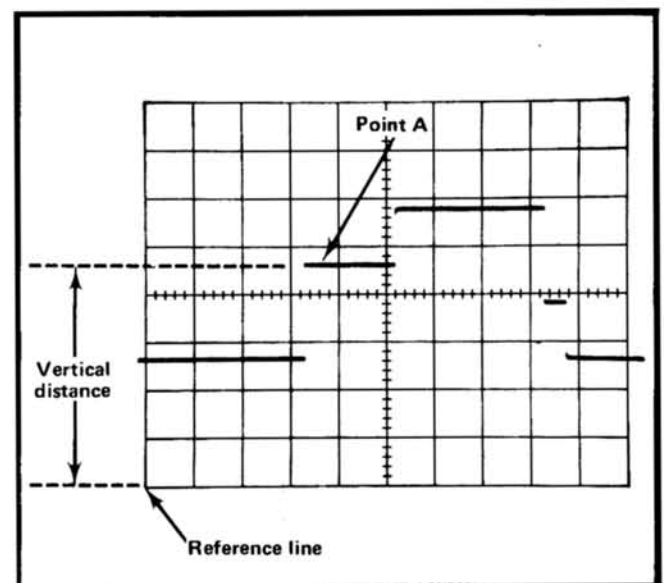

Fig. 2-2. Measuring instantaneous voltage with respect to same reference.
6. Measure the distance in divisions between the reference line and the point on the waveform at which the DC level is to be measured. For example, in Fig. 2-2 the measurement is between the reference line and point A.
**EXAMPLE:** Assume the vertical distance measured is 4.6 divisions (see Fig. 2-2) and the waveform is above the reference line using a 10X probe with a VOLTS/DIV switch setting of 0.5 V.